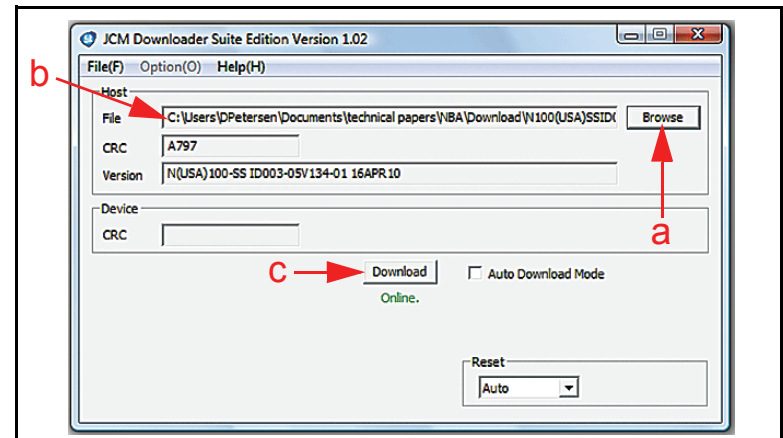

Figure 11 JCM Downloader Suite Edition Version 1.02 Screen
The Screen shown in Figure 11 will appear.
5. Use “Browse” (See Figure 11 a) to locate the download file desired. Mouse-click select the file to be downloaded so it appears in the “File” Field (See Figure 11 b); then Mouse-click on the “Download” Screen Button (See Figure 11 c).